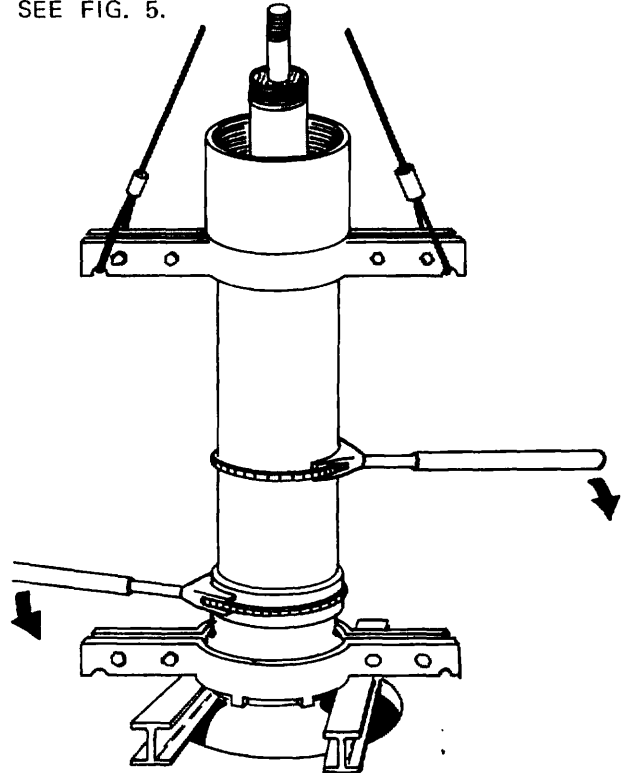

FIG. 5 – INSTALLATION OF COLUMN PIPE TO BOWL ASSEMBLY.
7. Apply thread compound to the bowl assembly threads (pipe coupling on subsequent sections) and butt faces and to the pipe threads. Lower the column until the column engages the bowl assembly. Using chain tongs, tighten the pipe (right hand threads) into the bowl while slowly lowering the derrick hoist. Tighten the pipe into the bowl so that it seats securely against the mating shoulder in the bowl assembly. SEE FIG. 5.